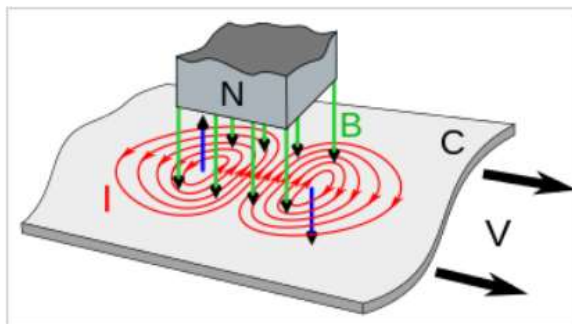

Figure 2
Eddy currents (I , red) induced in a conductive metal plate (C) as it moves to right under a magnet (N). The magnetic field (B , green) is directed down through the plate, as shown in **Figure 2**.